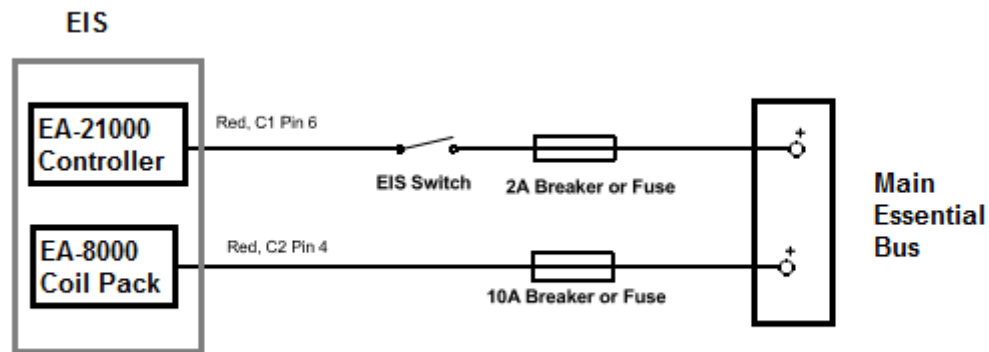

Figure 17: Single Engine, Single EIS Power Connection
- 1.) **Single EIS Installation:** Connect the panel mounted switch to a 2-amp breaker or fuse. Connect the 2-amp breaker or fuse to Essential Bus Bar. See Figure 17.
- 1.) **Single EIS Installation:** Route the unterminated end of the Red wire from the harness through a 10-amp breaker (fuses may be used as an alternative to breakers) to the Essential Bus Bar. Cut to length and install terminals as required. See Figure 17.
- i. **Single EIS installation on one or both (twin) engines:** The connections for C2-Pin 4 and C1-Pin 6 should be to the main essential bus (through 10A and 2A breaker or fuses). See Figure 17.